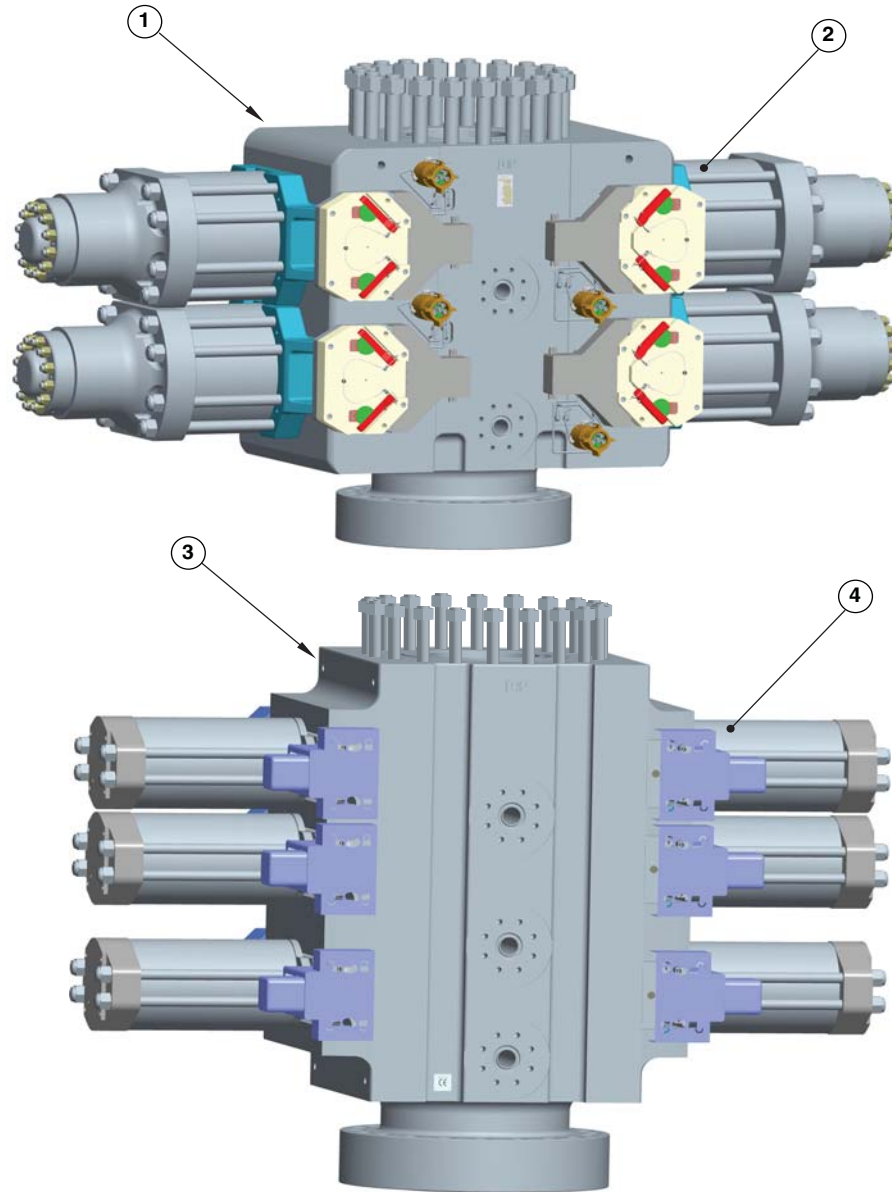

Figure 6-1. 18^{3/4}" , 15M NXT Ram BOP Assemblies
Figure 6-1 through Figure 6-11 illustrate the components of the UltraLock II (B) and 22" PosLock door assemblies. Parts lists for the UltraLock and PosLock components are provided in the following tables: